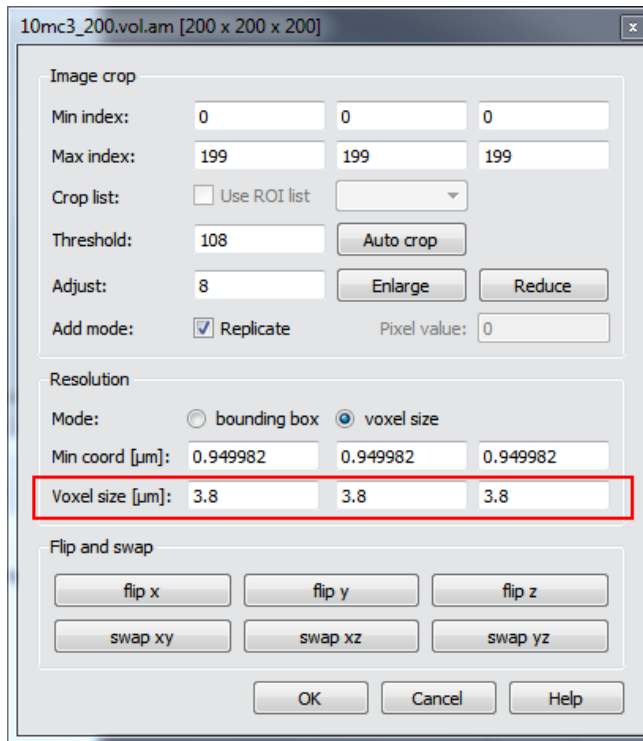

Figure 14.8: Fields to fill to modify the voxel size in the *Crop Editor*.
- The voxel size of the data set can be modified in the dialog that appeared (see Figure 14.8).